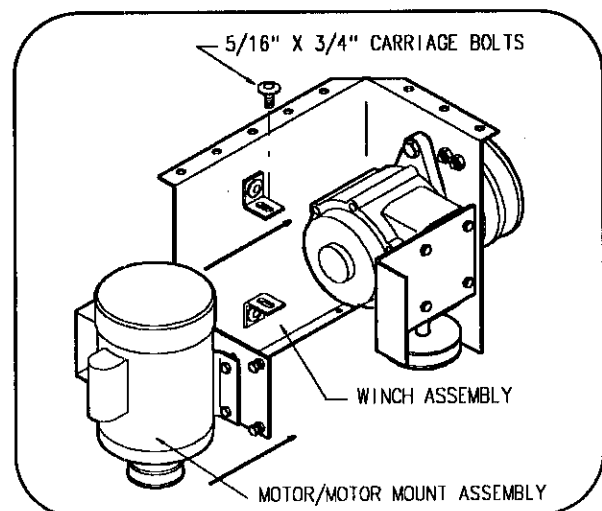

Figure 18
7. The drop cable nearest the Winch Assembly is to be installed and used as the control cable as shown in Figure 18. Install the Control Mounting Channel to the ceiling using the two (2) clamps provided. Mount the clamps approximately one (1) foot from each end of channel. The channel must be mounted with the open end down. Mount the channel in close proximity to main cable run without creating interference.
8. Mount one (1) drop pulley at each end of channel. The drop line end pulley must be at least 24-inches from end of channel for installation purposes.
1. Clamp one end of control cable to main line approximately 24-inches back towards winch from drop pulley as shown in Figure 18.